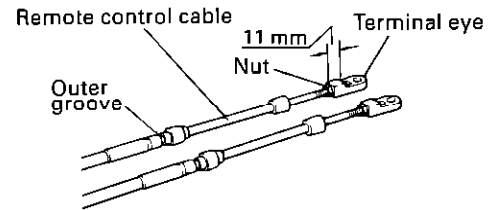

Fig. 5
- ② Screw in the Remote Control Cable Terminal Eyes 11 mm (0.43 inch). (Fig. 5)